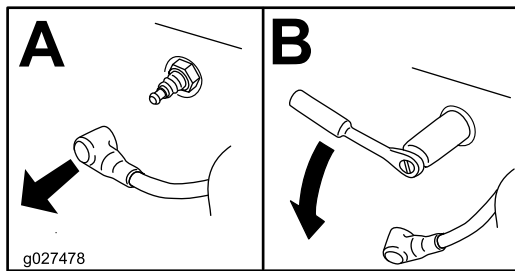

Figure 53
- Remove the spark plug (Figure 53).